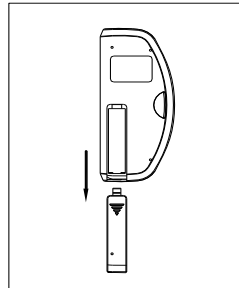

Fig.5
- B. Open the battery cover. (Fig.5)